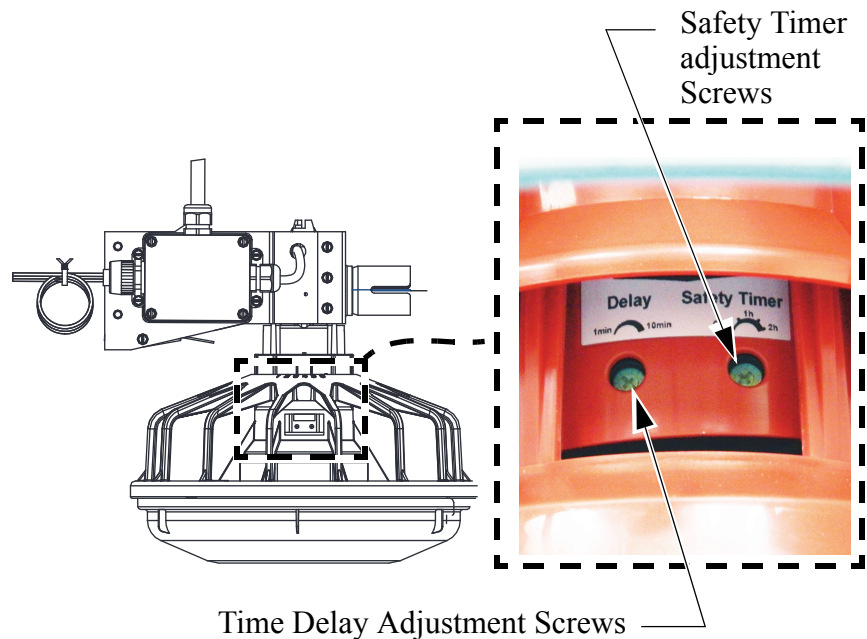

Figure 59. Electronic Switch Adjustment
See **Figure 59**. The Electron Sensor's sensitivity is preset at the factory. The time delay adjustment is 1 minute to 10 minutes. *The factory setting is 1 minute.* The Sensor also comes with a Safety Timer that can be set to: Off, 1 hour, or 2 hours. The *factory setting is 2 hours.* To get access to the Adjustment Screws:
Step 2: Pull the Sensor Down to expose the Safety Timer and Time Delay Adjustment Screws see **figure 59**.